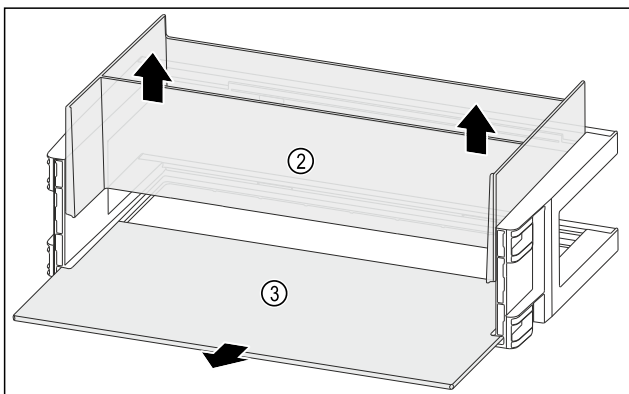

Fig. 133
- ▶ Remove the organiser *Fig. 133 (2)* upwards.
- ▶ Remove the shelf *Fig. 133 (3)*.